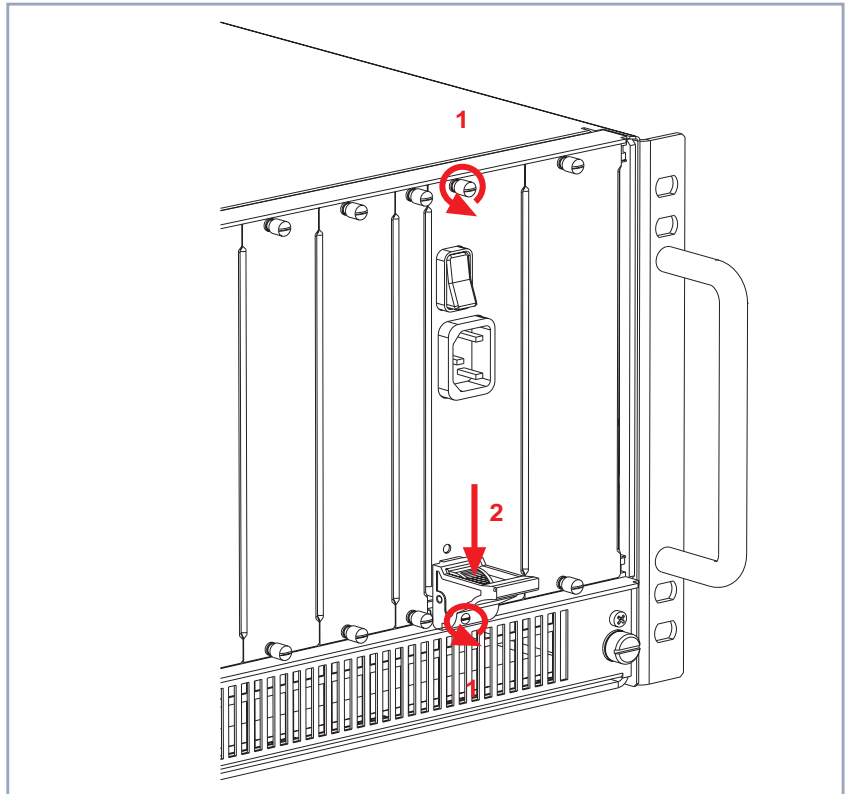

Figure 4-16: Removing the power supply unit
- Loosen the screw of the power supply front-panel as shown in figure 4-16, page 57, arrows no. 1.
- Press the switch on the injector/ejector handle down in order to release the connection linked to the cross section of the case front, see figure 4-16, page 57, arrow no. 2.